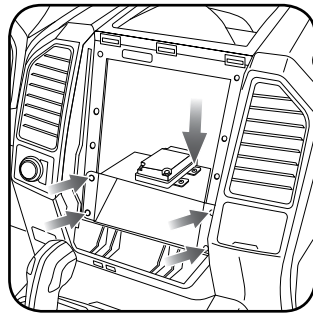

Fig. 9.0
10. Mount the camera module to the supplied mounting bracket using 3 M6 bolts and washers, included with the FTR1 kit. Connect it. Insert in dash (area where OEM radio was) and secure it with (4) 7mm screws. (Fig. 9.0)